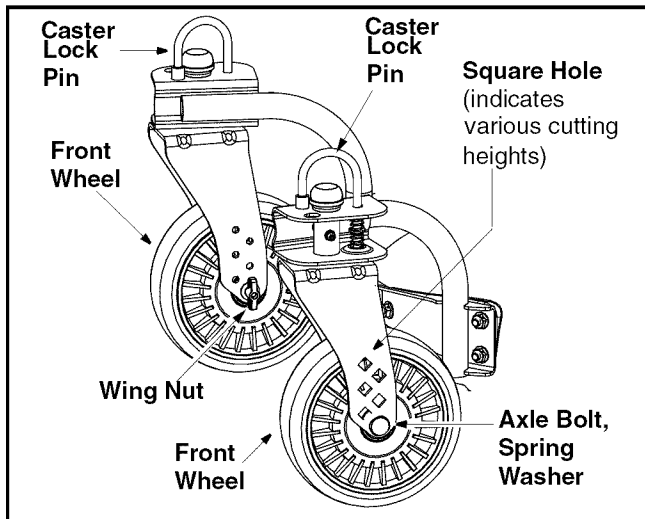

Figure 13
- Remove the wing nut from the axle bolt. See Figure 13.
The casters can be locked in a straight ahead position or position to swivel freely. See Figure 13.